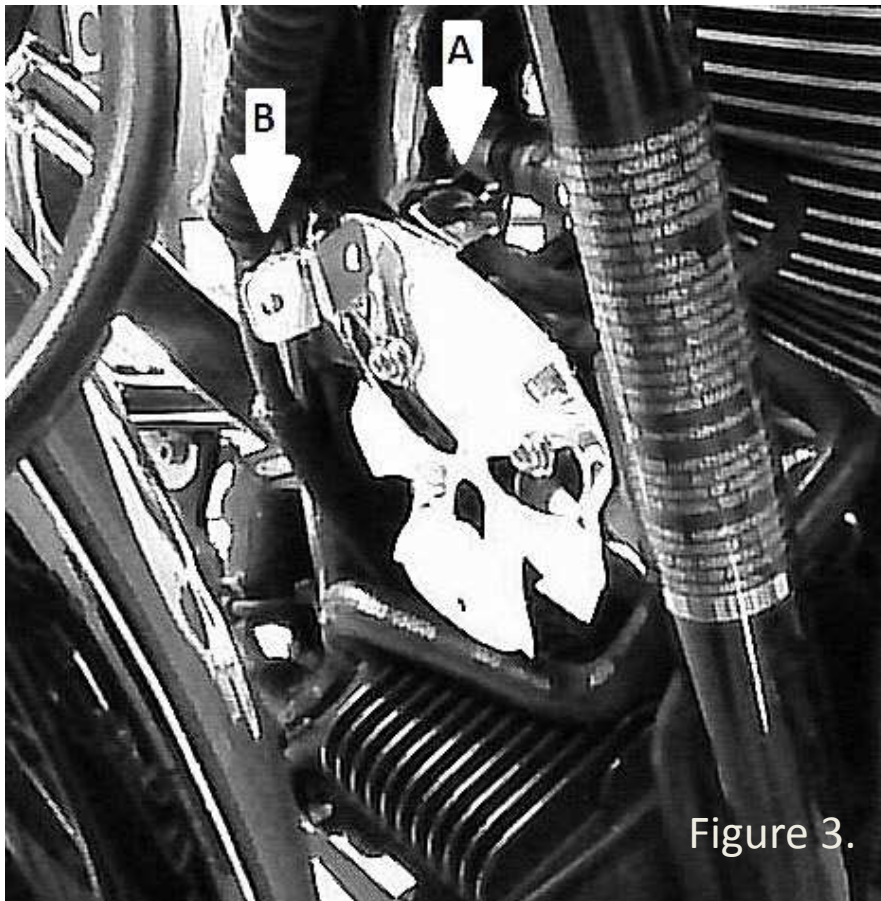

Figure 3.
3. If your cover is like Figure 3, place a single tie in the top tab (Figure 3. A) and around the sensor wires. Carefully tighten the ties to hold wires but not so tight as to cause damage.